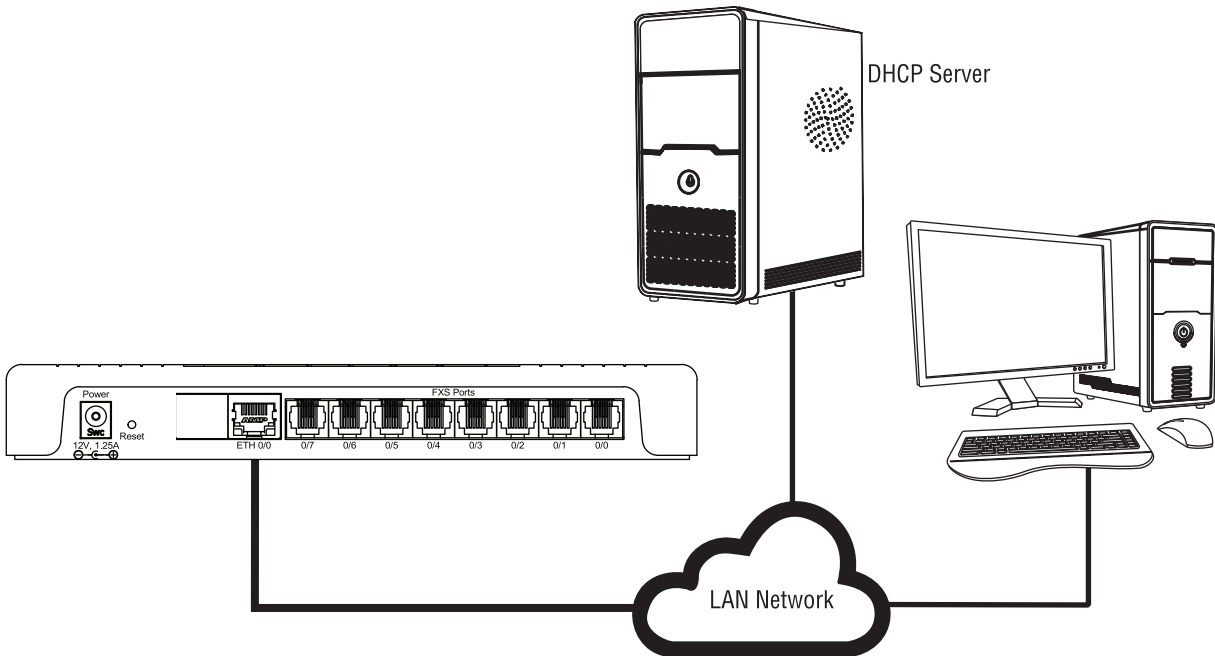

Figure 16. Connecting SmartNode device and PC to a LAN with DHCP server.
2. The SmartNode device is connected to a local area network (LAN) that has a DHCP server running which assigns an IP address to the SmartNode device (see figure 16). Using the SN Discovery tool, the SmartNode device’s IP can be determined.